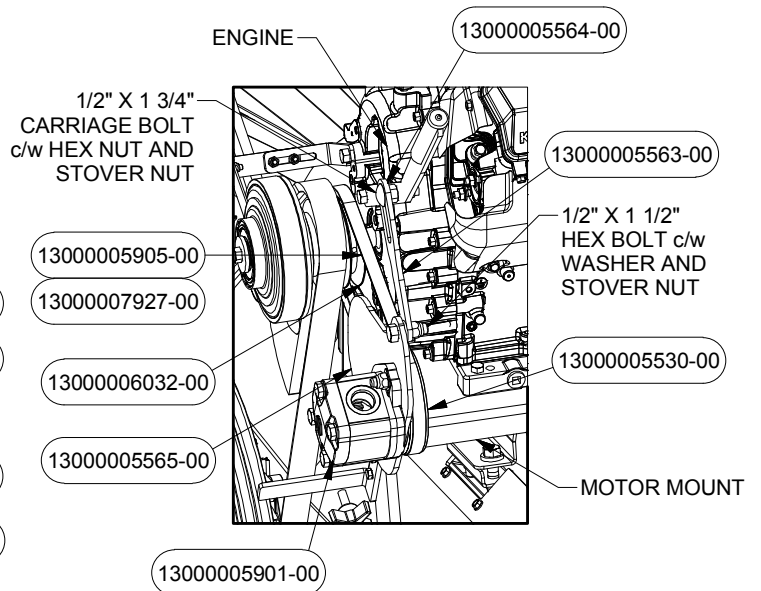
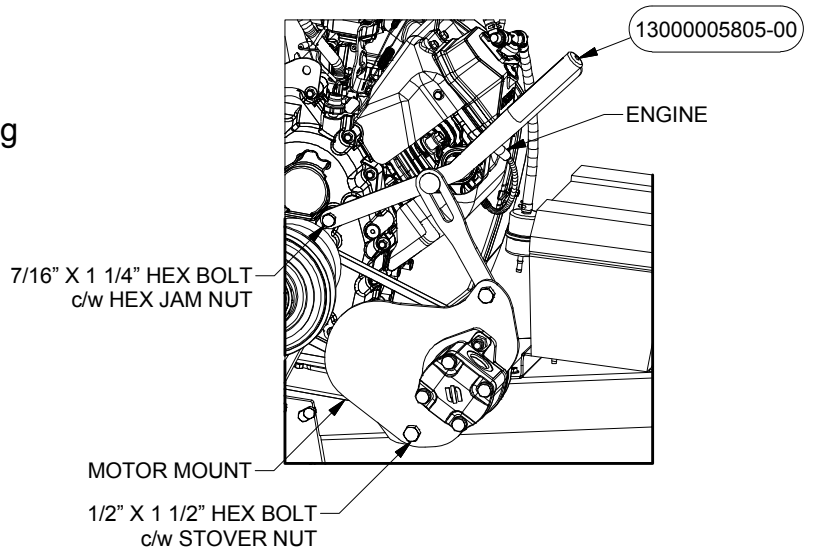

FIGURE 43
FIGURE 44
- Assemble the Hydraulic Pump PN# 5901 and its parts Pump Mount PN# 5565, Belt Sheaves PN# 5530 and PN# 6032, Bushings PN# 5532 and PN# 6067, Pump Adjuster PN# 5563, Handle PN# 5564, Handle Grip PN# 5805, and V-Belt PN# 5905 for Gas Engines and PN# 7927 for Isuzu Diesel Engines. Use the fasteners shown in Figure 43 then mount the assembly to the Engine and Motor Mount as shown in Figure 44.